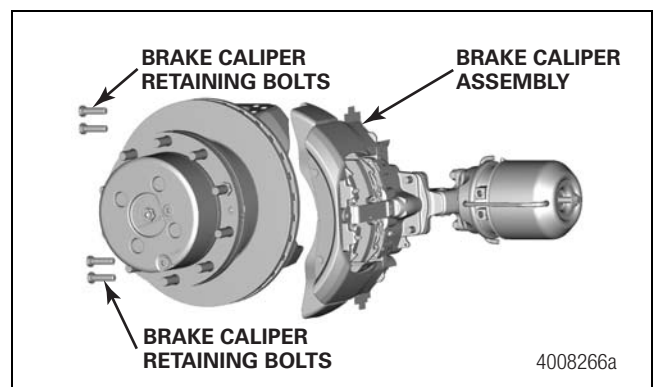

Figure 17.9
2. Install the four brake caliper retaining bolts and tighten to the torque specified in Section 20. Refer to Maintenance Manual MM-0467 for complete installation procedures. To obtain this publication, refer to the Service Notes page on the front inside cover of this manual. Figure 17.9.